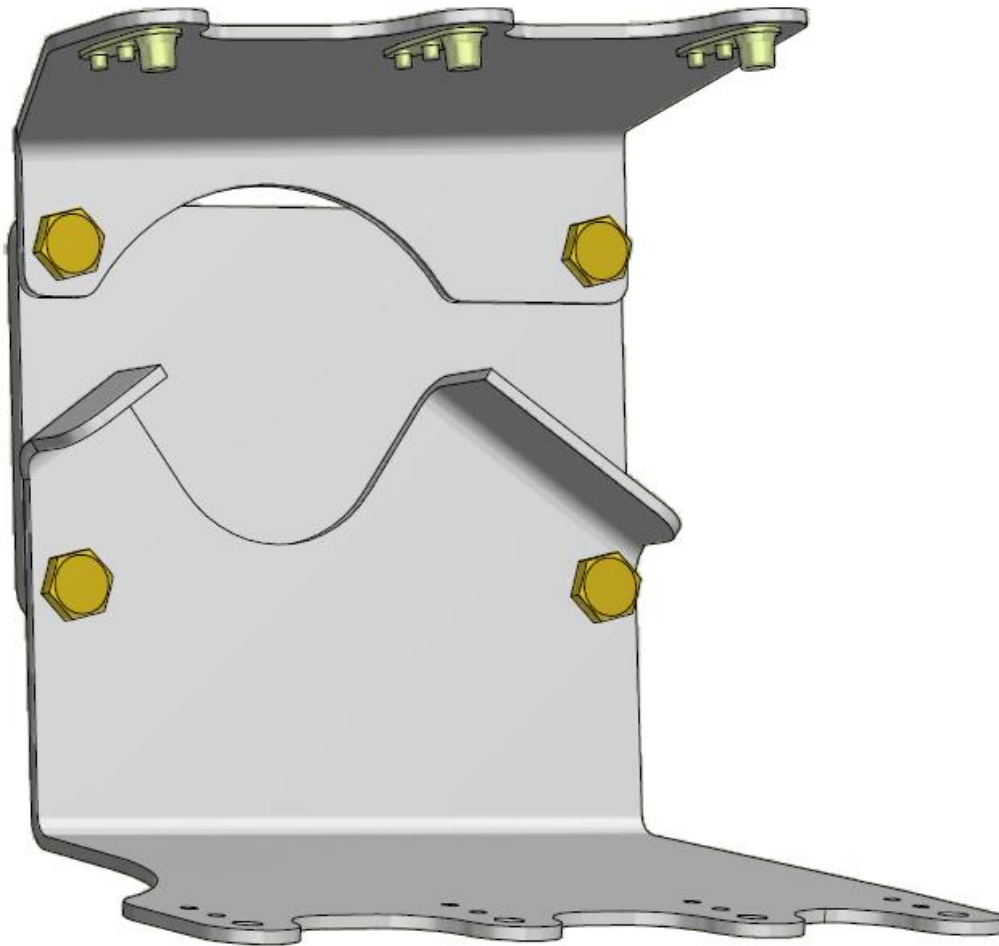

Figure 2-5
- 5.2. Temporarily attach the Servo Bolt Pattern Plate (P/N 1420-216) to the upper bracket using 2 ea. AN3-3A as shown in figure 2-5.
- 5.3. Temporarily attach the Cessna 172 Lower Roll Bracket, (P/N 1450-108) to the Servo Bolt Pattern Plate (P/N 1420-216) using 2 ea. AN3-3A as shown in figure 2-5.